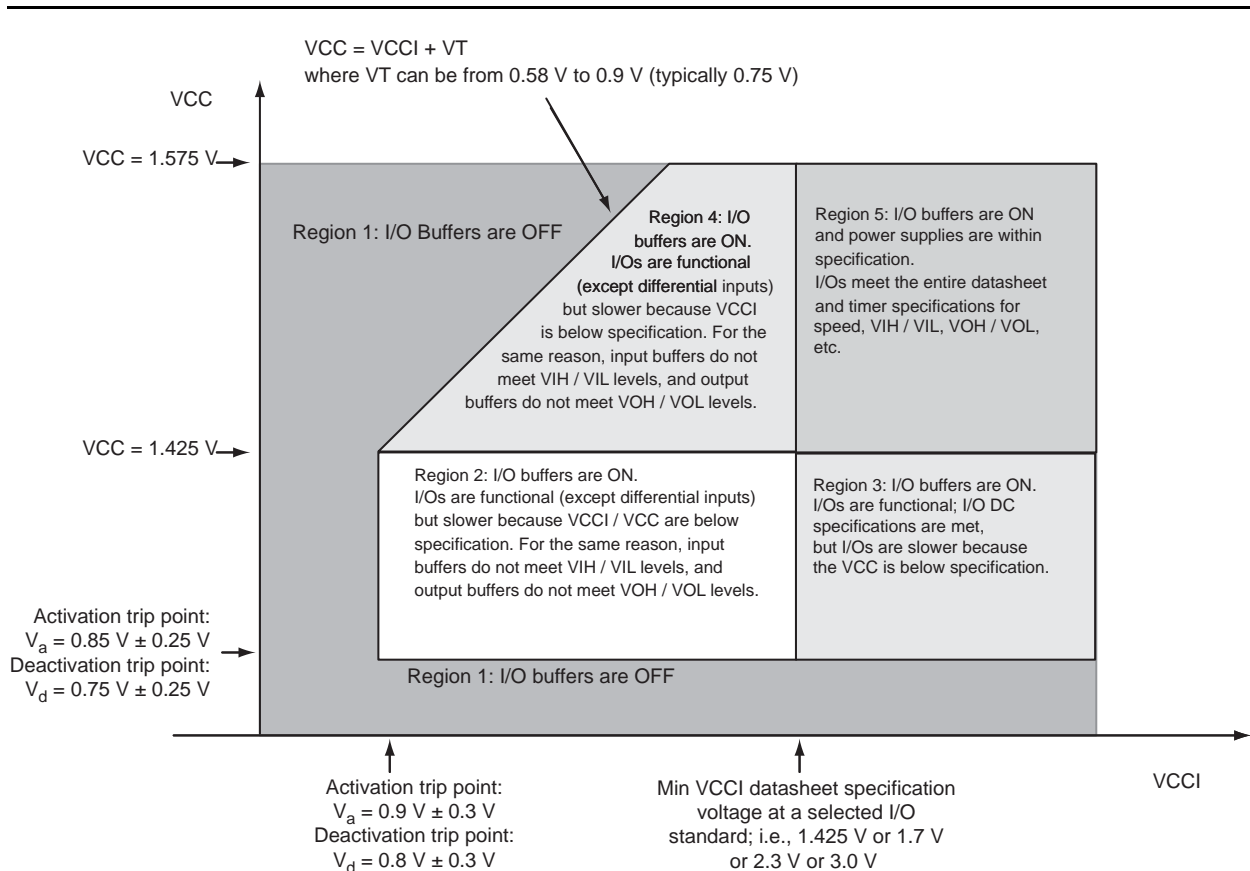
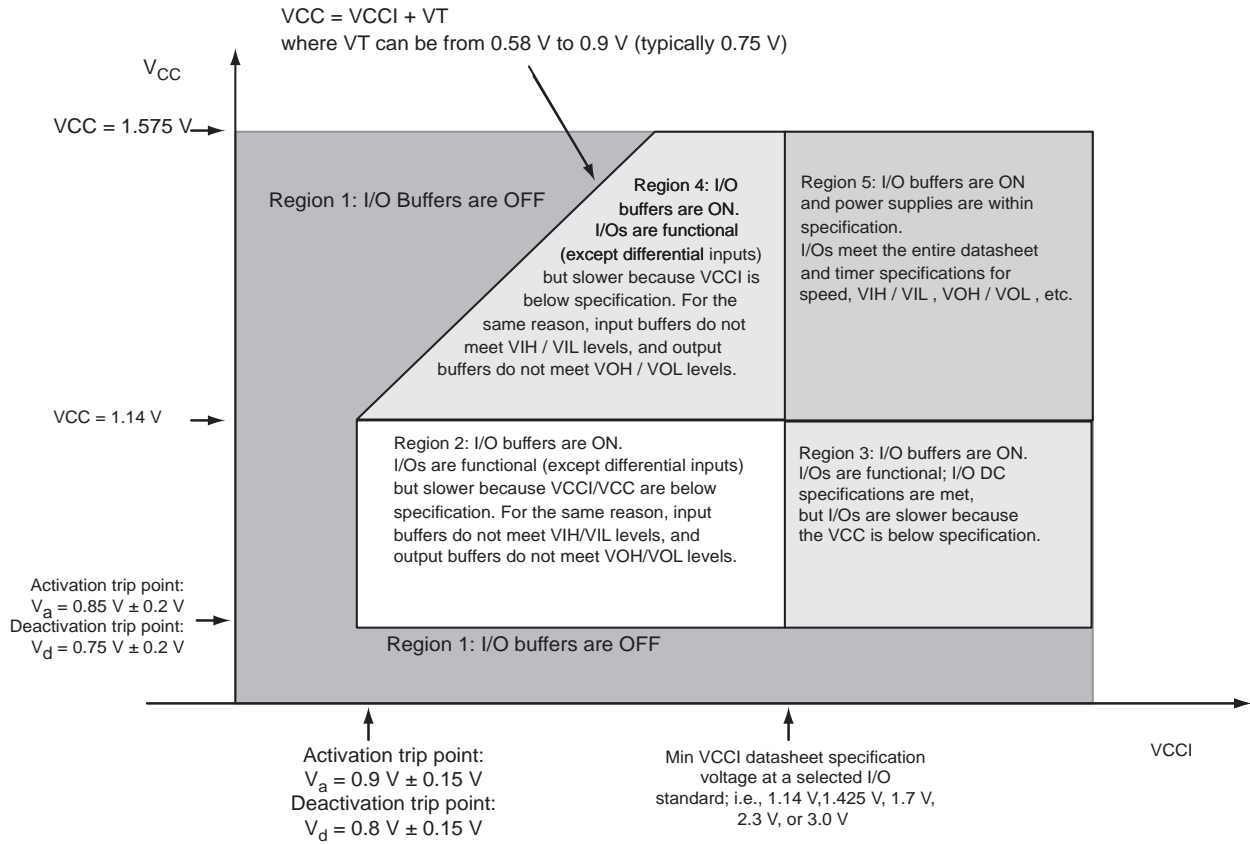

Figure 2-1 • V5 Devices – I/O State as a Function of VCCI and VCC Voltage Levels
Figure 2-2 • V2 Devices – I/O State as a Function of VCCI and VCC Voltage Levels
Sophisticated power-up management circuitry is designed into every IGLOO PLUS device. These circuits ensure easy transition from the powered-off state to the powered-up state of the device. The many different supplies can power up in any sequence with minimized current spikes or surges. In addition, the I/O will be in a known state through the power-up sequence. The basic principle is shown in Figure 2-1 on page 2-4.
1. VCC and VCCI are above the minimum specified trip points (Figure 2-1 and Figure 2-2 on page 2-5).
Actel recommends using monotonic power supplies or voltage regulators to ensure proper power-up behavior. Power ramp-up should be monotonic at least until VCC and VCCPLX exceed brownout activation levels (see Figure 2-1 and Figure 2-2 on page 2-5 for more details).